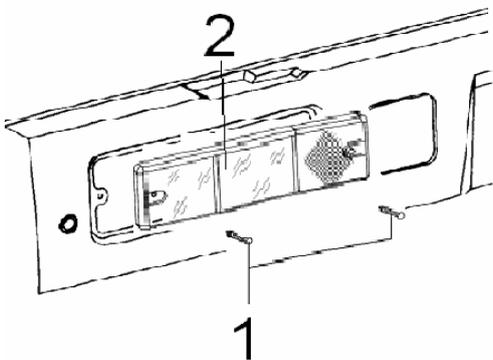

Fig.17-19 Tail lamp
- 2 Removal and Installation (Fig.17-19)